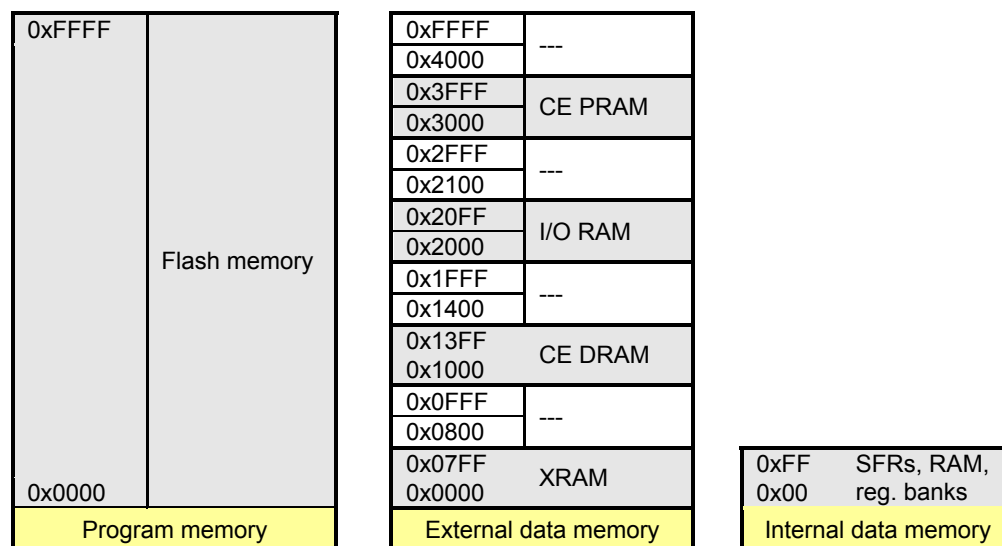

Figure 6: Memory Map
Memory organization in the 80515 is similar to that of the industry standard 8051. There are three memory areas: Program memory (Flash), external data memory (XRAM), physically consisting of XRAM, CE DRAM, CE PRAM and I/O RAM, and internal data memory (Internal RAM). Figure 6 shows the memory map (see also Table 54).
**External Data Memory:** While the 80515 can address up to 64KB of external data memory in the space from 0x0000 to 0xFFFF, only the memory ranges shown in Figure 6 contain physical memory. The 80515 writes into external data memory when the MPU executes a MOVX @Ri,A or MOVX @DPTR,A instruction. The MPU reads external data memory by executing a MOVX A,@Ri or MOVX A,@DPTR instruction (SFR USR2 provides the upper 8 bytes for the MOVX A,@Ri instruction).